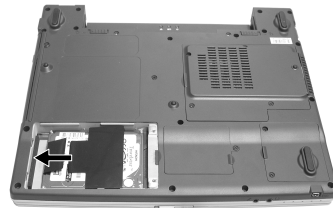

Figure 2-11 Remove HDD module
3. Slide the HDD module out of the compartment. (Figure 2-11)